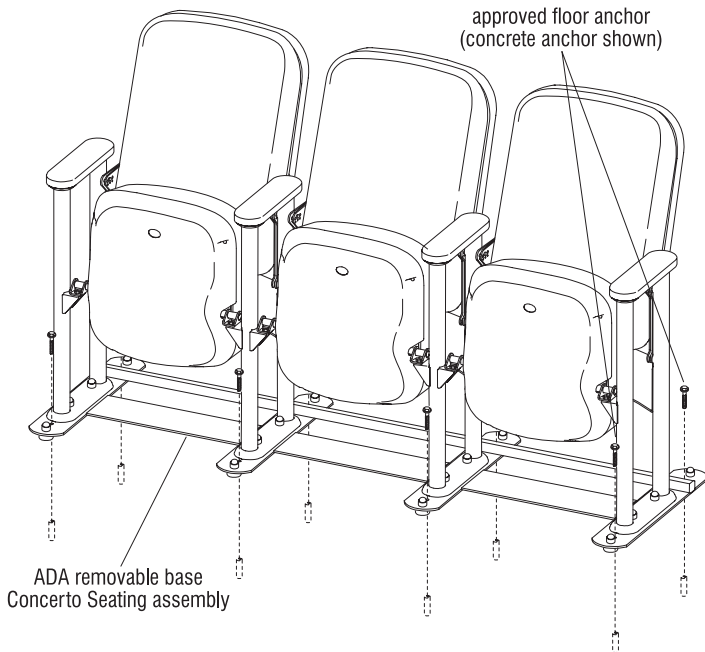

Figure 2
6. Reposition the unit and secure to the floor following the anchor requirements (Figure 2).
7. For removal of the unit, remove the hardware that anchors the ADA base to the floor and move the unit. To reinstall, repeat steps 5 & 6 (Figure 2).